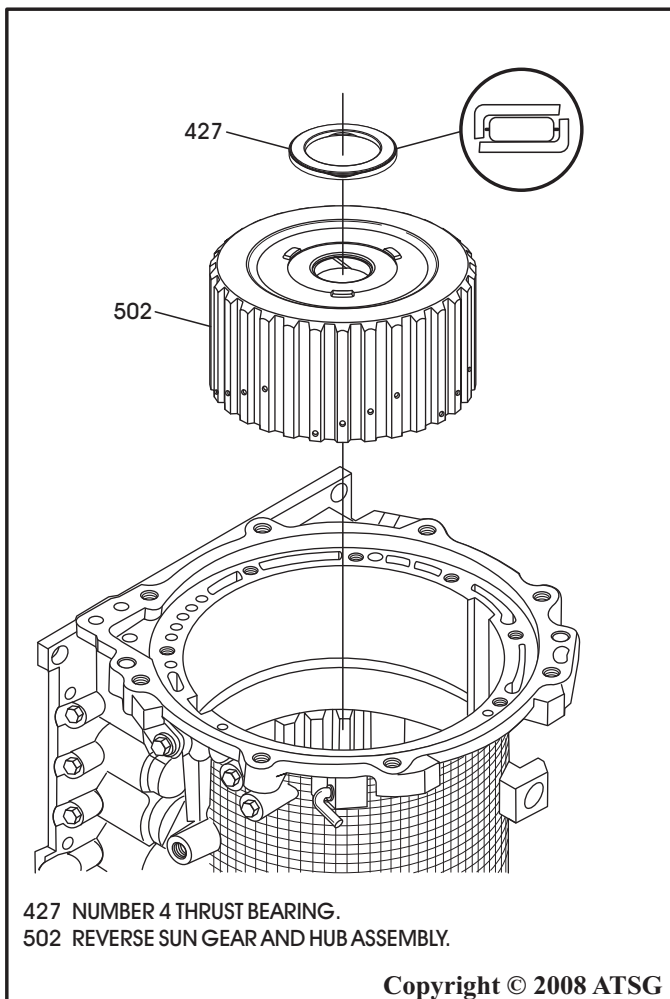

Figure 202
45. Install the reverse sun gear and hub assembly, as shown in Figure 202, ensuring the number 4 thrust bearing is still in place.